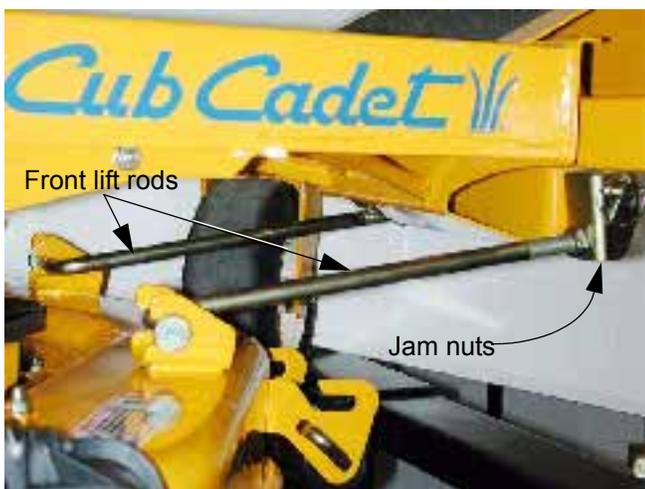

Figure 1.13
- 1.13. Adjust blade pitch using a 7/8" wrench to lengthen or shorten the front lift rods. See Figure 1.13.